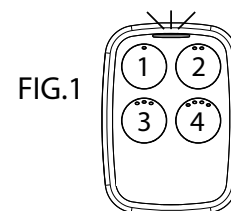

FIG.1
Reference FIG 1 to use any of these four manufacturer pre-sets to quickly program a button.
2. On the universal remote, press and hold down button #2. (Reference FIG. 1)